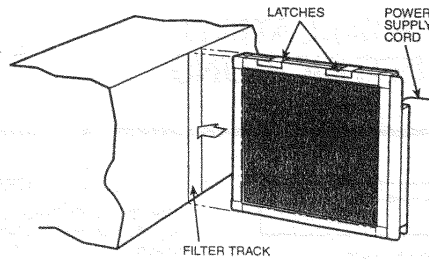

Fig. 1 — Electronic Air Cleaner Removal
1. Unplug the power cord from the electronic air cleaner and remove the air cleaner from the filter rack. See Fig. 1.